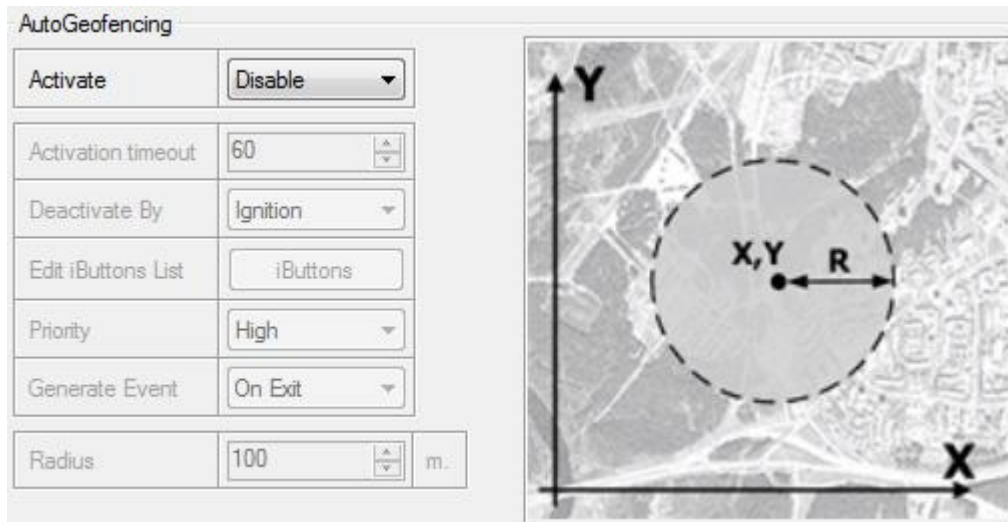

Figure 34 FM53 Features->Autogeofencing Configuration
- AutoGeofencing option can be configured by following parameters visible in Figure 34 below.